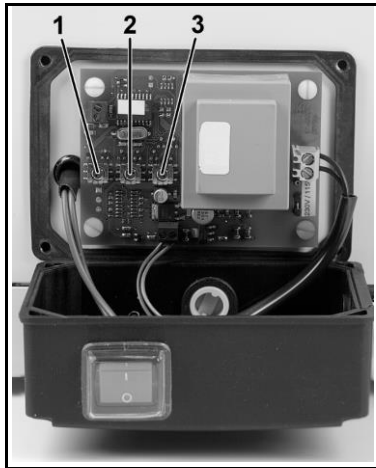

Fig. 8: Control box (opened) of drying system with switches 1, 2, 3
3. At the control box, loosen the collar nut of the cable inlet. Use a slotted screwdriver to release the four screws, then fold the cover forwards and lay it down (see fig. 8).
4. Set the desired values at switches S1, S2, and S3 (see fig. 8). See Table 9 for an explanation of the switches and for the values which can be set.